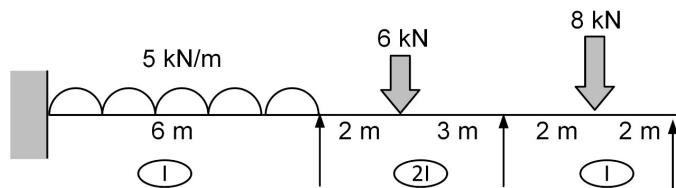

Figure 1
- c) Analyze the beam in figure 1 using moment distribution method. Assume E constant.